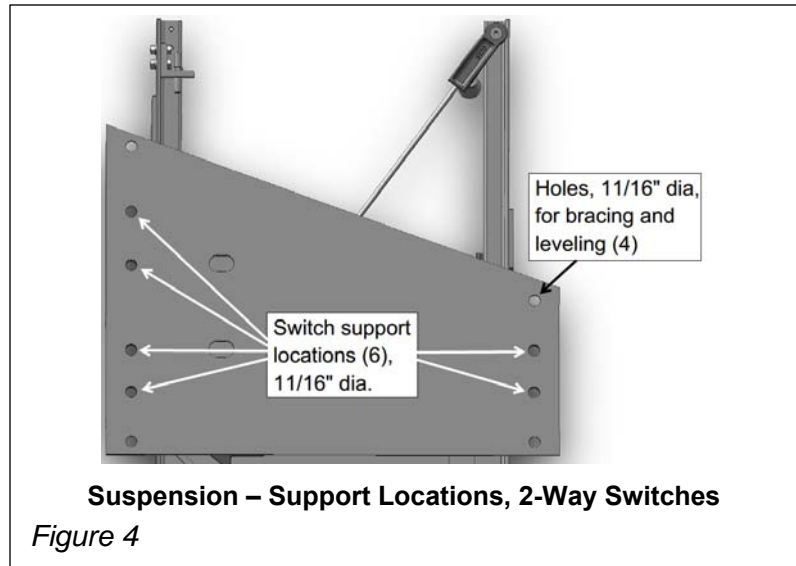

Figure 4
**Locations:** 600 Series Glide Switches must be supported at the locations shown in Figures 4, 5 and 6. Use 5/8" hanger rods, or bolts to support members, at each of the suspension points.
Attach bracing to switch at the 4 holes in the top plate of each switch, as shown in Figures 4, 5 and 6.